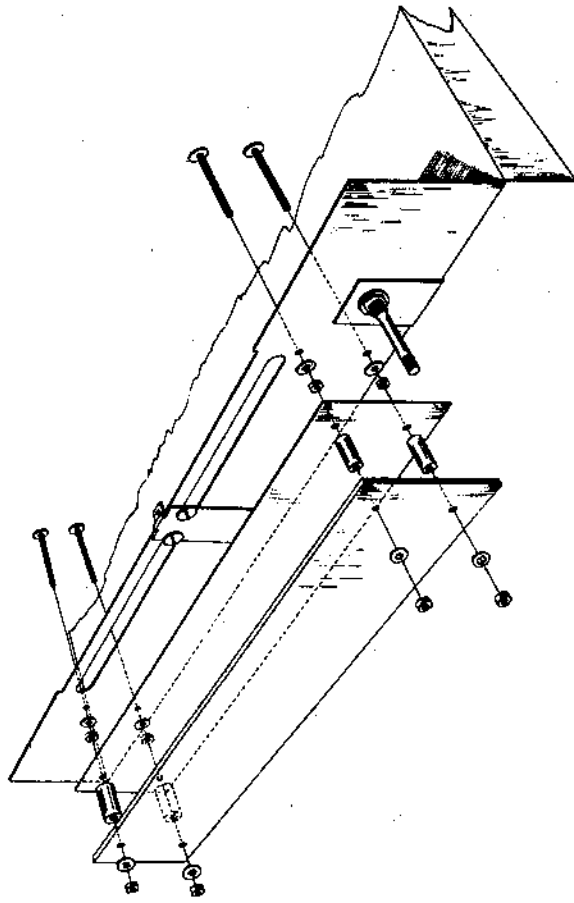

Fig. 11
(10) Fig. 11. Place the black metal background plate on the four #6-32 x 1 1/8" screws previously mounted to the chassis front apron. If the background plate does not fit easily over the screws, loosen the 1 1/8" screws temporarily, slide the plate over the screws and then retighten the screws to the front panel apron. Insert the DM71 tube, V7, into socket XV7 on indicator tube carriage. If the DM70 (direct replacement) is supplied it is necessary to cut the leads to 1/4". Place a black spacer on each screw and mount the dial scale with four #6 lockwashers and four #6-32 hex nuts. Be sure to remove the protective paper from the dial scale.